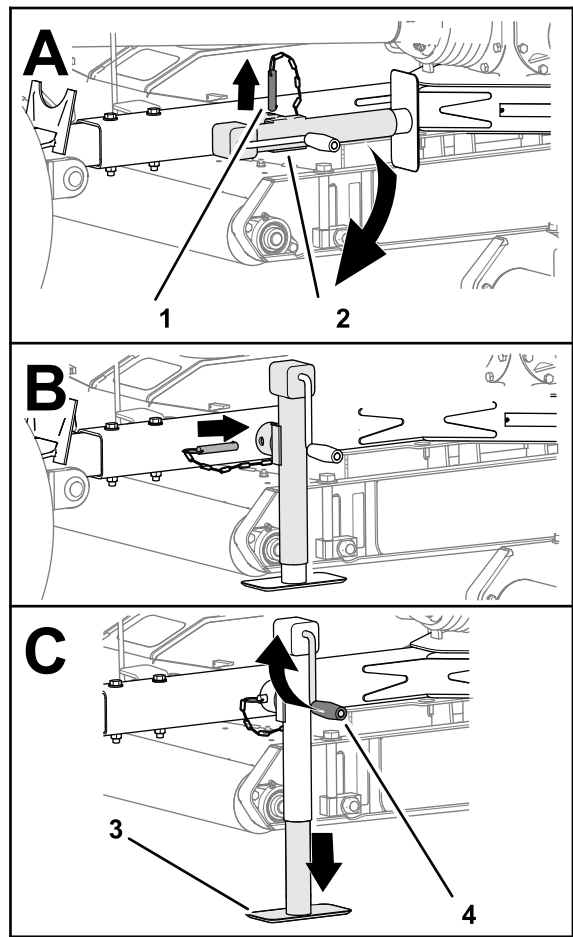

Figure 23
3. Remove the pin and rotate the tow-bar jack vertical (Figure 23).
4. Align the hole in the tow bar with the hole in the jack (Figure 23).
5. Insert the pin through the holes in the tow bar and jack (Figure 23).
2. Rotate the jack handle to fully raise the jack pad; refer to Figure 23 in Using the Tow Bar Jack \(page 16\).